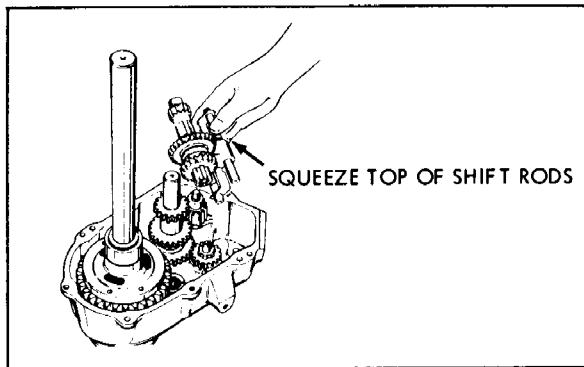

Figure 2-6
7. Remove the shifting assembly as one unit. (Fig. 2-6)